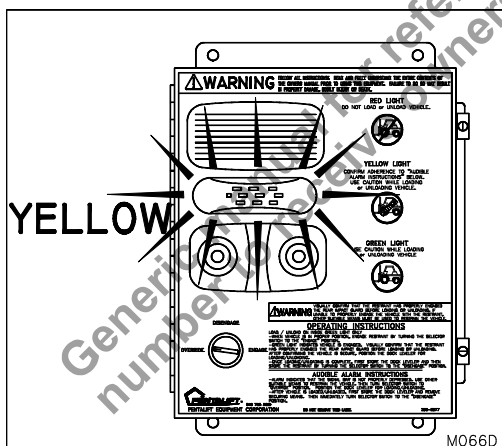
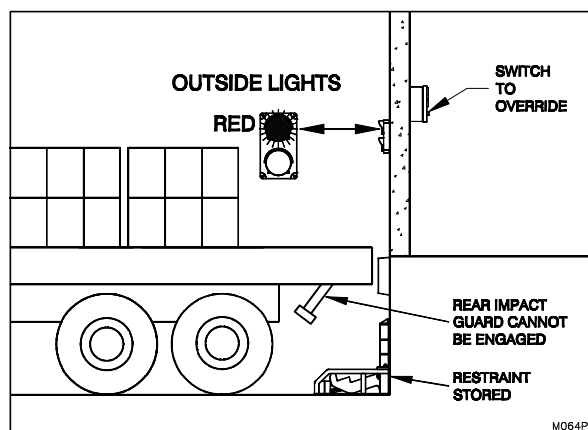

Figure 32: Inside Yellow Light
Figure 33: Use Other Suitable Means to Restrain the Vehicle
7. To test the OVERRIDE feature, ensure the signal bar is not depressed and follow the entire sequence outlined in Step 2. With the restraint in the fully raised position and with the alarm sounding, turn the selector switch to the "OVERRIDE" position (See "Figure 33: Use Other Suitable Means to Restrain the Vehicle" on page 36). The hooking arm will automatically return to the stored position, and the alarm will be silenced. The outside RED light must be illuminated and the inside YELLOW light must be illuminated. (See "Figure 33: Use Other Suitable Means to Restrain the Vehicle" on page 36 and "Figure 32: Inside Yellow Light" on page 36).